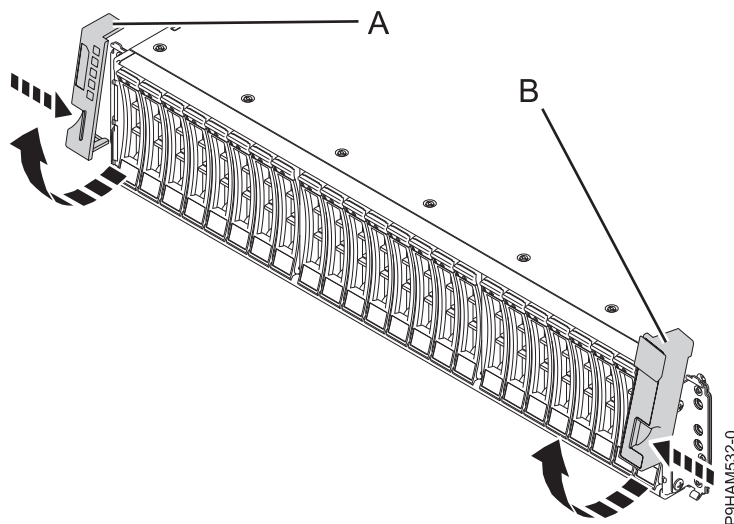

Figure 18. Removing the side covers
2. Remove the left side cover (A) and right side cover (B) to show the mounting brackets.
3. Pinch the release to rotate the cover up and off from the chassis flange as shown in Figure 18.